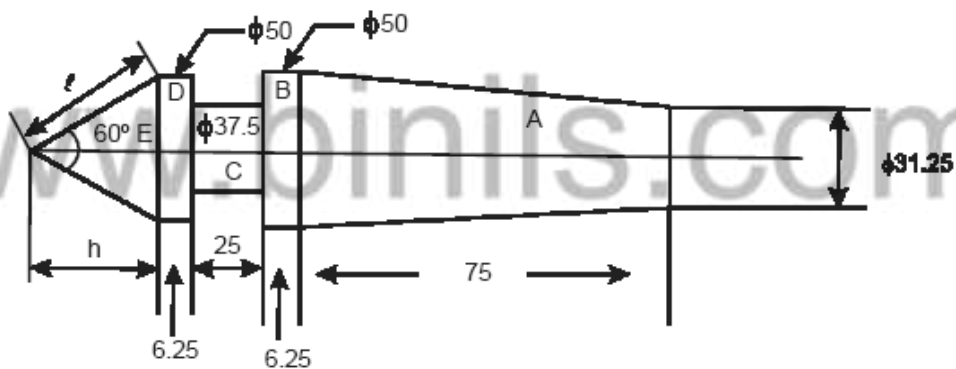

Figure 6
5. The following Fig.6 shows a "lathe stock". Estimate the weight and cost of material if C.I. weighs 7.787 gm/cc and material cost is 60 per kg.